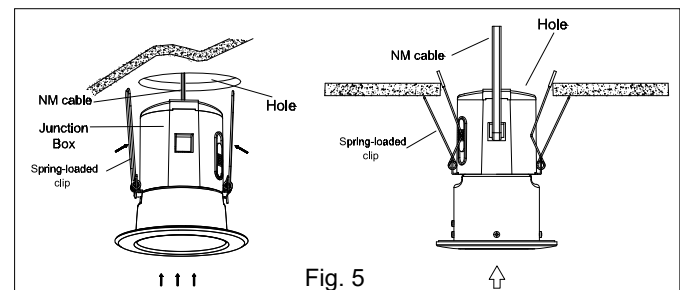

Fig. 5
- Raise the Premium Kit up to the ceiling hole, while simultaneously pushing the excess NM cable into the ceiling (Fig. 5).
- Flip up and squeeze the spring-loaded clips against the junction box, as shown, and insert the fixture into the hole, junction box first (Fig. 5).